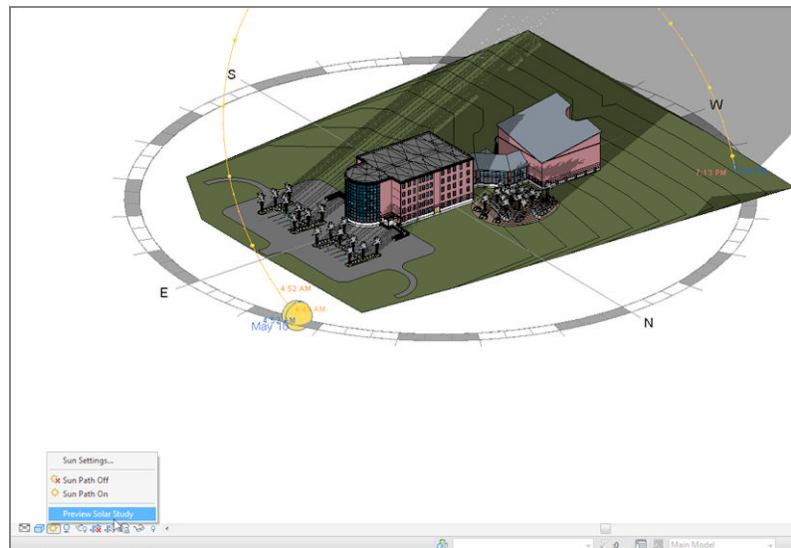

FIGURE 19.25: Previewing the solar study
11. On the View Control bar, click the Shadows button, and then select Preview Solar Study, as shown in Figure 19.25. (You can spin the view to check out the different sunlight effects on the building.)